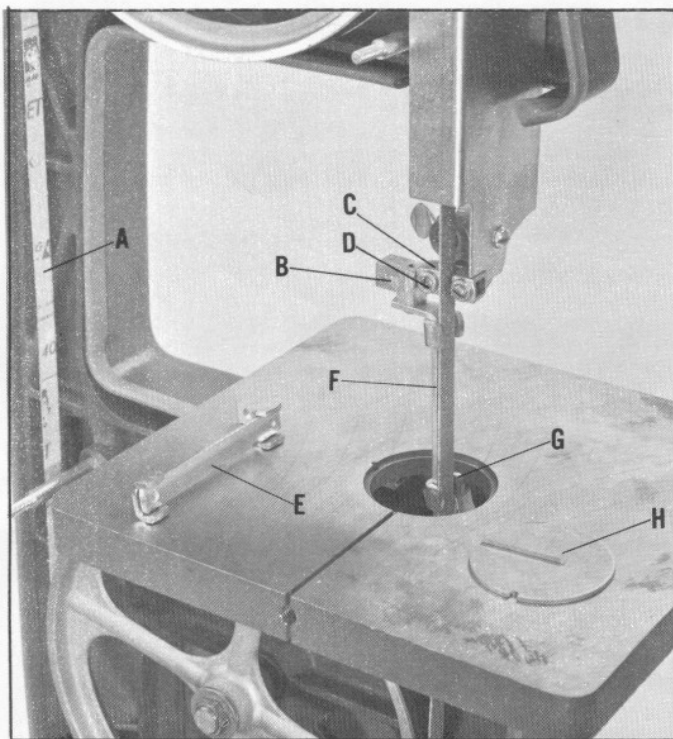

Fig. 14.
7. Install sanding belt (A) Fig. 14, to the two wheels. The arrow on the back of the sanding belt indicates the direction of rotation for the belt.
9. Assemble the mounting bracket (B) Fig. 14, to the blade guide bracket (C) as shown, and tighten set screw (D).
10. Assemble either the flat platen (E) or the curved platen (F) to the mounting bracket (B) as shown in Fig. 14.
11. Lower the blade guide bracket (C) so that the end of the platen (G) Fig. 14, is just below the table surface.
12. Place the table insert (H) Fig. 14, in place.